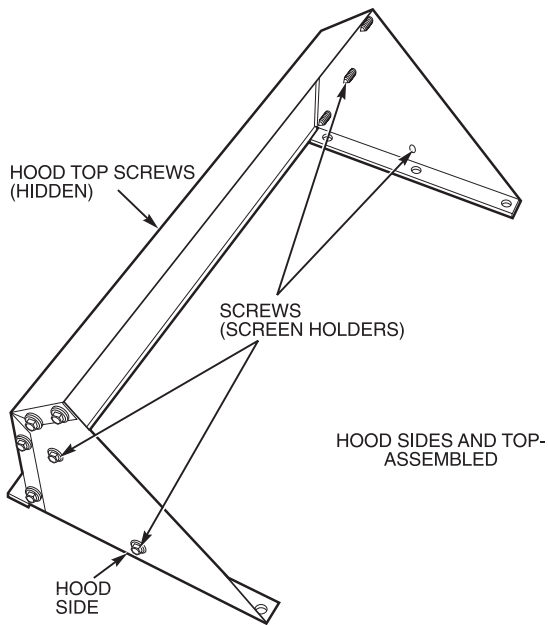
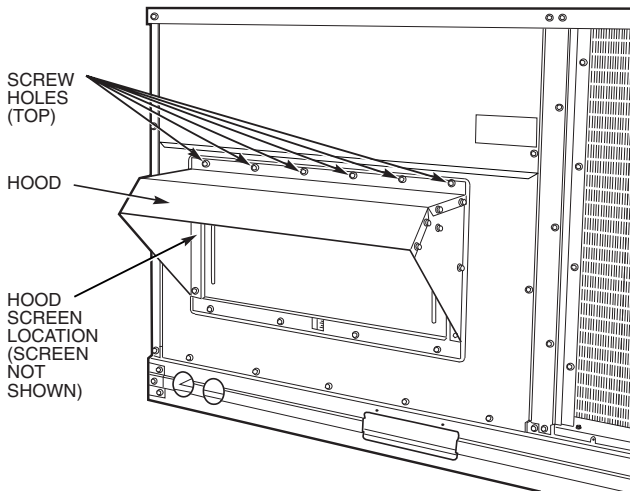

Fig. 12 — Outdoor-Air Hood Details
Fig. 13 — Optional Manual Outdoor-Air Damper with Hood Attached
5. Place the hood on the front of the outdoor air opening panel. See Fig. 12 for hood details. Secure the top of the hood with the 6 screws removed in Step 3. See Fig. 13.
7. Align the screw holes on the hood with the screw holes on the side of the manual outdoor-air damper. See Fig. 12 and 13. Secure the hood with the 8 screws from Step 6.
9. Remove and save the screws currently on the sides of hood. Insert the screen to the hood using the screws. See Fig. 13.